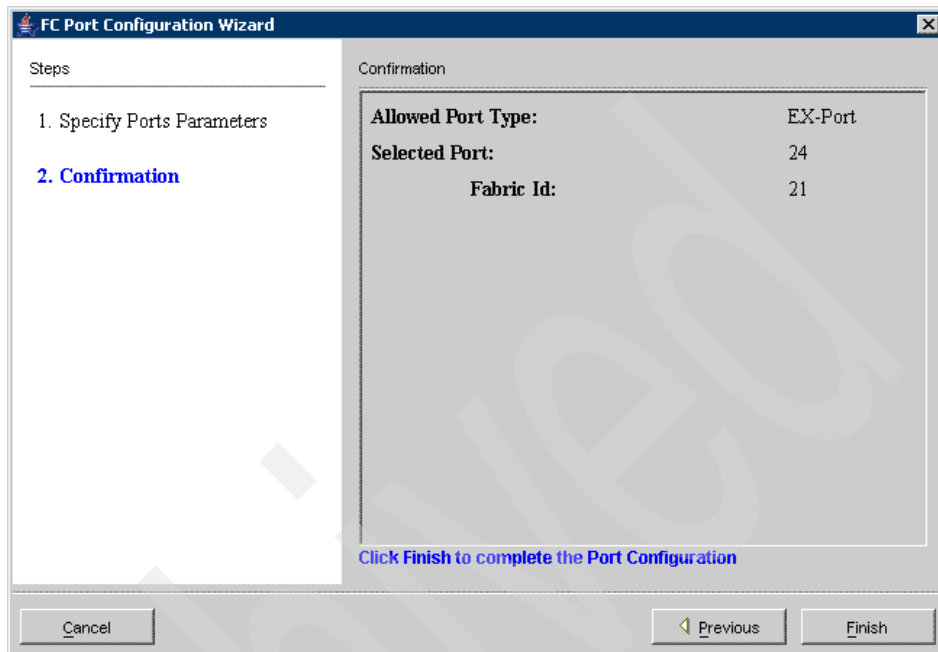

Figure 6-93 Port Configuration Confirmation
- Next, we confirm the settings. Click **Finish** to close the wizard and complete the port configuration, as shown in Figure 6-93.